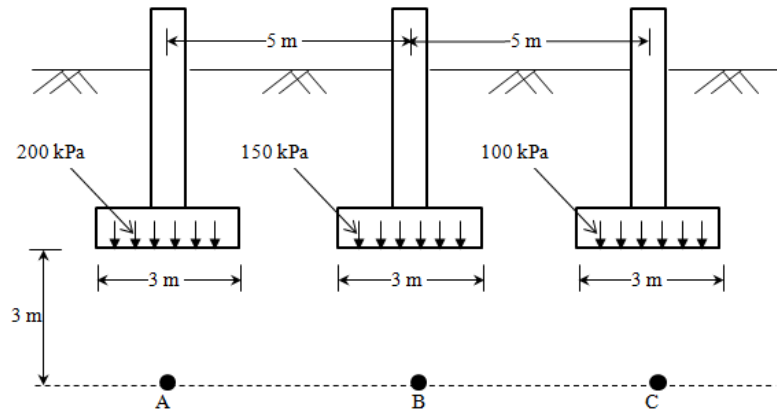

Fig.5
- 7. (a) Three parallel strip footings (Figure 5) 3 m wide each and 5 m apart centre to centre transmit contact pressures of 200, 150 and 100 kN/m2, respectively. Calculate the vertical stress due to the combined loads beneath the centres of each footing i.e. at points A, B and C at a depth of 3 m below the base. Assume the footings are placed at a depth of 2 m below the ground surface. Use Boussinesq's equation for line loads.